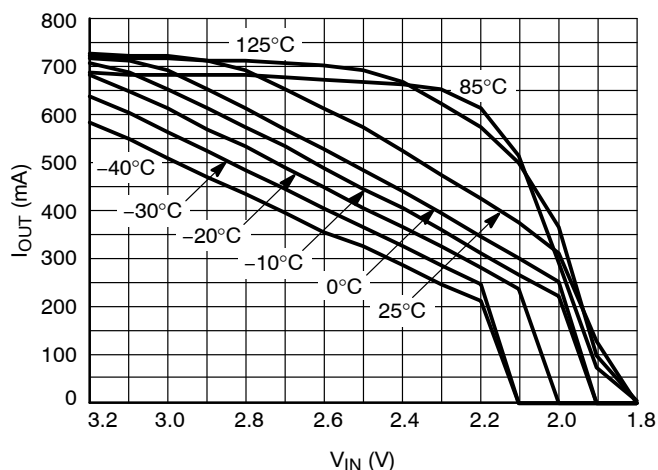

Figure 21. Output Current Capability for the 1.8 V Version
18. For output current capability for  $T_A < 0^{\circ}\text{C}$ , please refer to Figure 21.